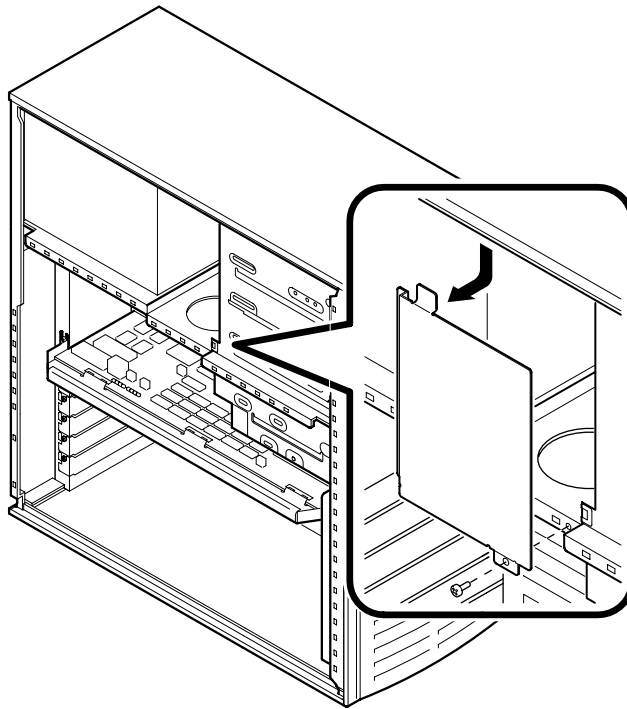

Figure 3-8. Removing the Metal Plate
4. Remove the metal plate, as Figure 3-8 shows. The top of the plate is hooked behind a rail, and the bottom of the plate is held by a screw. To improve access, remove the metal plate from the other side of the system.